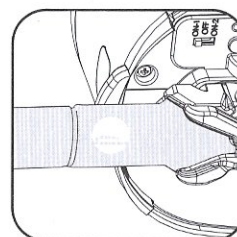

Figure 7
8. Slide Plastic Handle over the Metal Handle until the Plastic Handle 'wing features' mate with the shoulders of the Metal Handle. (Fig. 7)